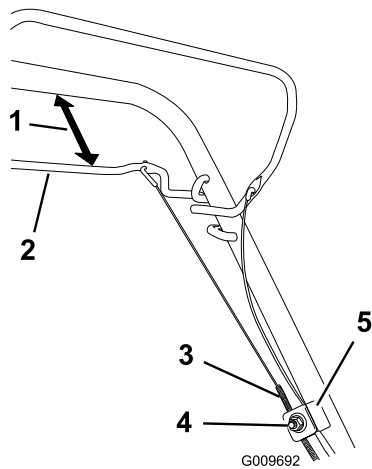

Figure 19
1. Loosen the cable support nut (Figure 19).
2. Hold the self-propel bail 1 to 1-1/2 inches (25 to 38 mm) from the handle (Figure 19).
3. Pull down the cable jacket (toward the mower) until there is no slack in the cable (Figure 19).